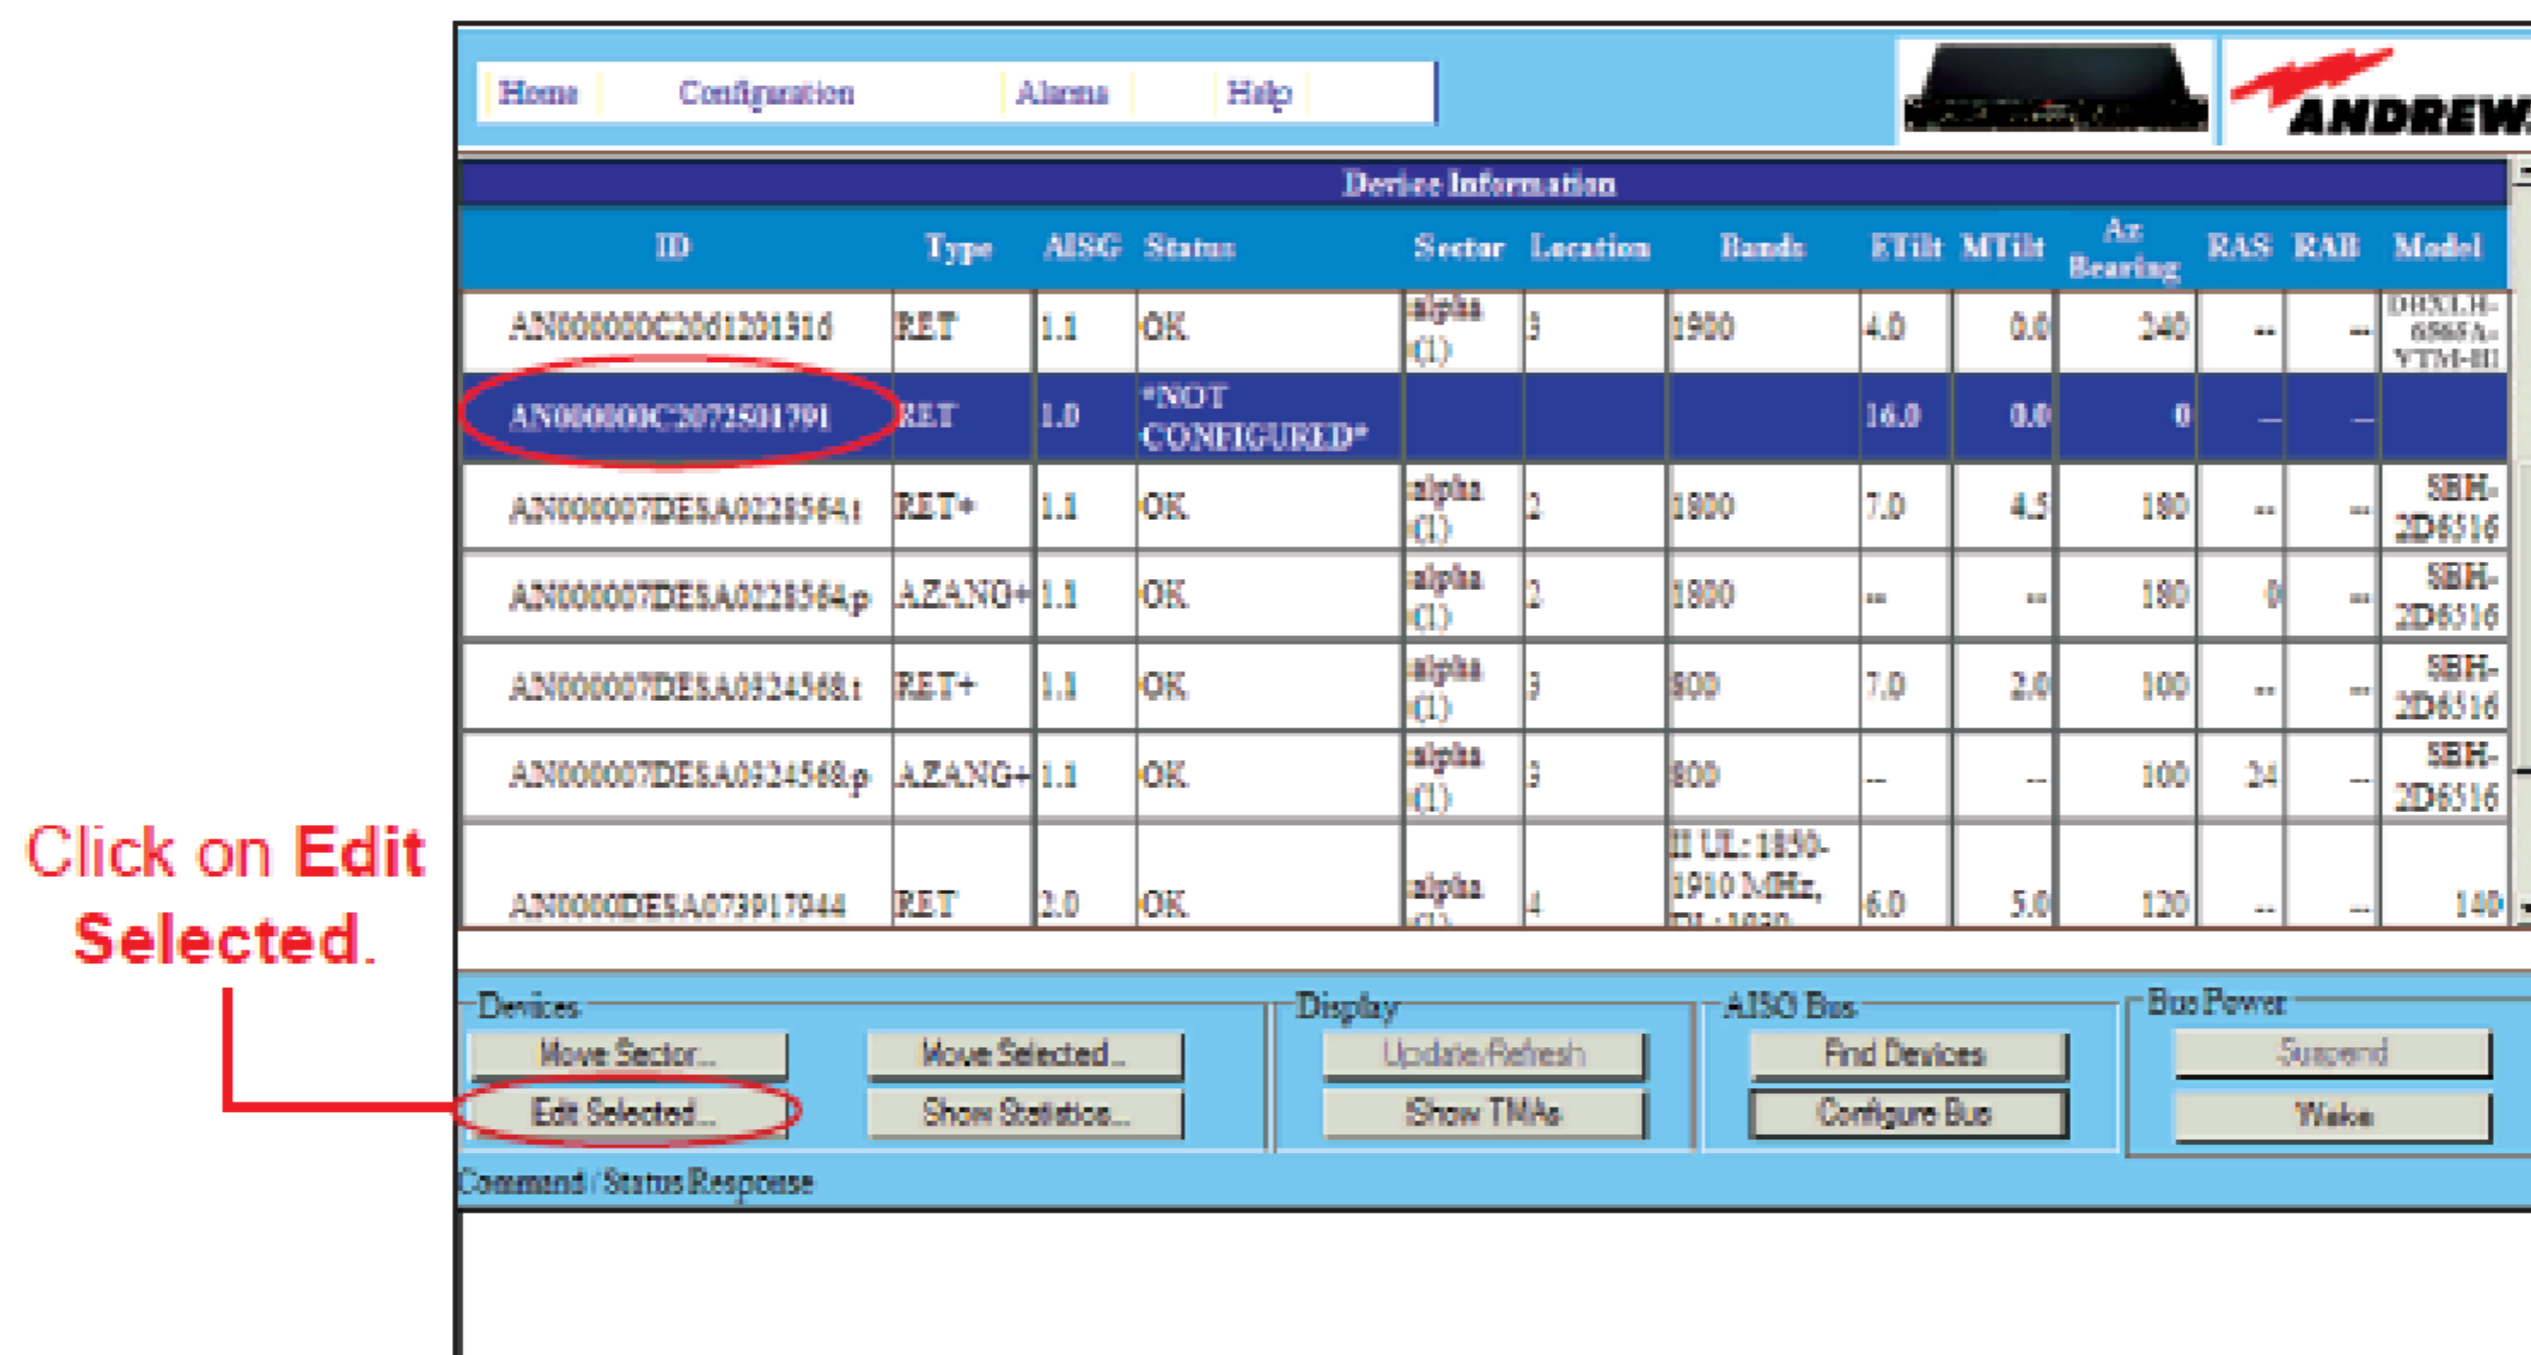

Figure 3-1. Starting the Device Configuration.
1. Select appropriate device to be configured and click on **Edit Selected** (Figure 3-1).